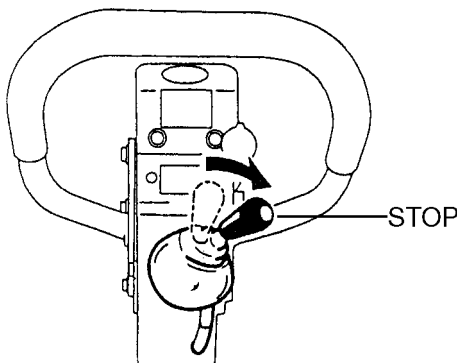

Figure 18. Throttle Lever (Stop)
- Turn the throttle lever to the **STOP** position (Figure 18) to stop the engine.